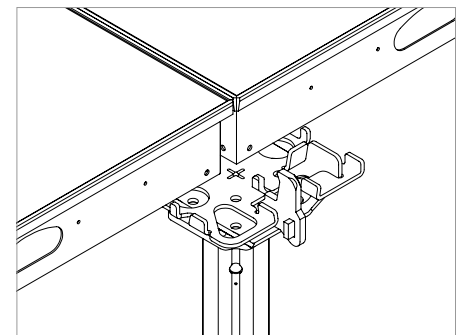

Fig. A5.14a
- when infill \leq cantilever. (Fig. A5.14a)